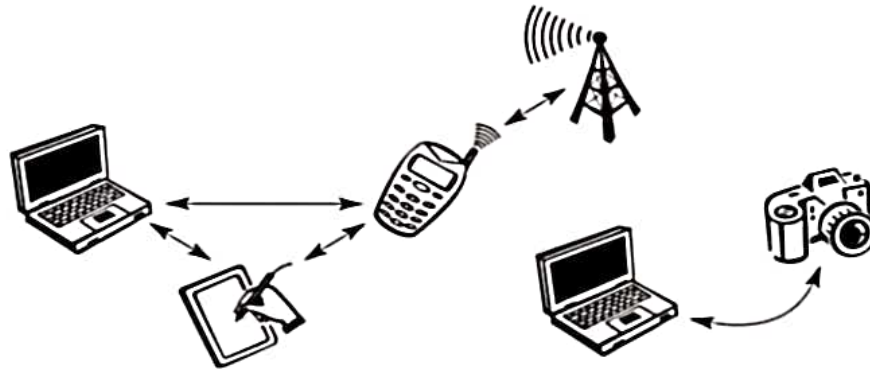

Fig.22. Bluetooth configurations
- The mobile phone can then act as a bridge between the local Pico nets and, e.g., the global GSM network as in Fig. 22.